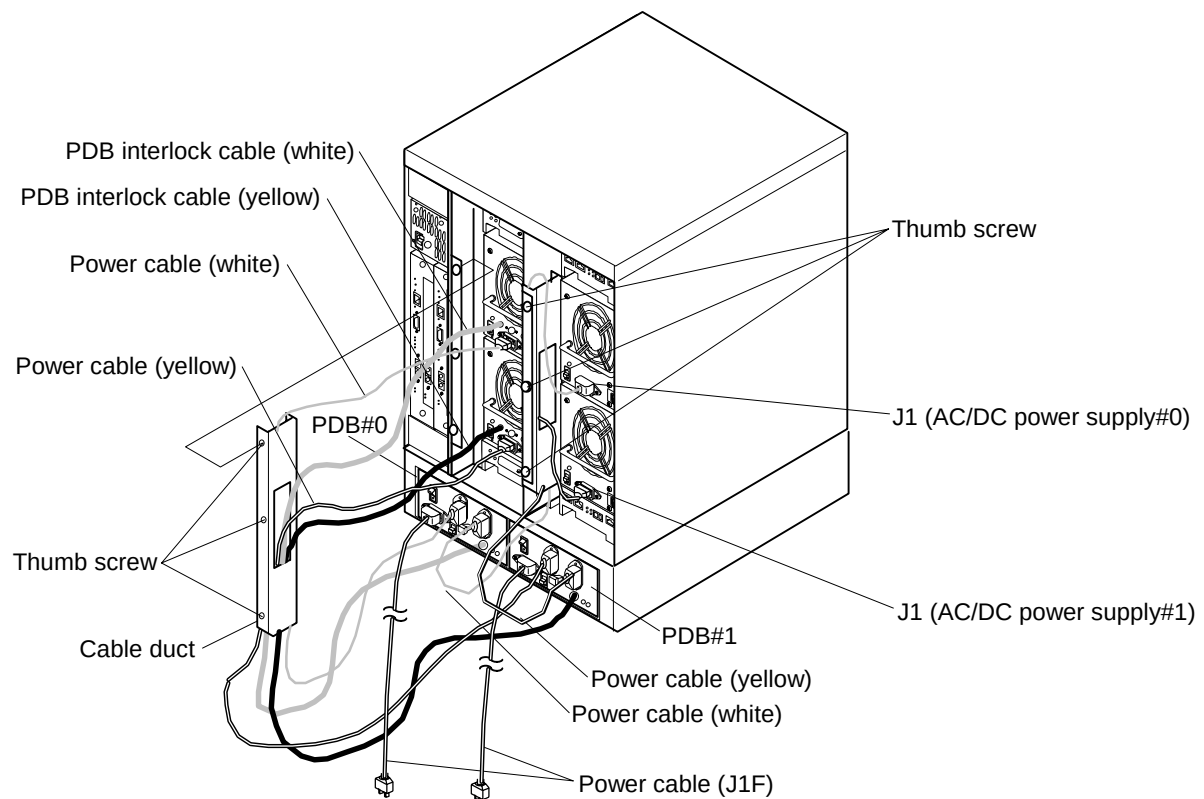

Figure 2.6.4 Power Cable Connection of H2F
- (1) Make sure that all the breakers of the PDB is turned off.
- (2) Make sure that all the breakers of the AC/DC power supply is turned off.
- (3) Remove the cable duct by loosening the three thumb screws.
- (4) Connect the connectors (AC/DC power supply side) of the power cables (white, yellow) to the receptor of the AC/DC power supply. . (Refer to Figure 2.6.4 and Table 2.6.1.)
- (5) Connect the connector on the AC/DC power supply side of the interlock cables (white and yellow cables) to the connector (J4) of the AC/DC power supply of the RK. (Refer to Figure 2.6.4 and Table 2.6.1.)
- (6) Pass the power cable (yellow cable) from the AC/DC power supply#1 through the rectangular hole on the cable duct.
- (7) Pass the interlock cables (white and yellow cables) from the AC/DC power supply#0 and #1 through the rectangular hole on the cable duct.
- (8) Put the power cable (white cable) from the AC/DC power supply#0 in the cable duct from the top to the bottom of the duct.
- (9) Install the cable duct in its installation position. When doing this, make the four cables, white and yellow power cables and white and yellow interlock cables, comes out from the bottom of the cable duct.
(Refer to Figure 2.6.4 and Table 2.6.2.)